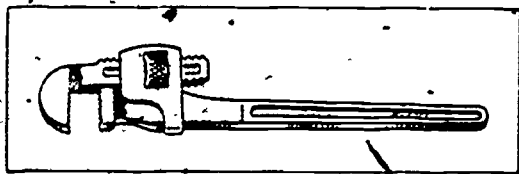

Figure 3-1. Pipe wrench.
**Pipe wrench.** The pipe wrench, shown in figure 3-1, is probably the most common wrench you will use. Use it for turning or backing up pipe and fittings during assembly when the pipe and fittings offer no gripping surface for other types of wrenches. Standard pipe wrenches can be obtained in sizes from 6 inches to 60 inches. The number stamped or cast on the handle indicates the size of the wrench. Do not use a pipe wrench on chrome pipe fittings where there is danger of damage to the surface from the bite of the wrench jaws. Never exert a hard pull on a wrench until it has a firm grip on the pipe. You should adjust the jaws of the wrench to take a full grip on a pipe, but don't allow the pipe to slip below the grip in the jaw opening, because the wrench may "kick off" and injure you.